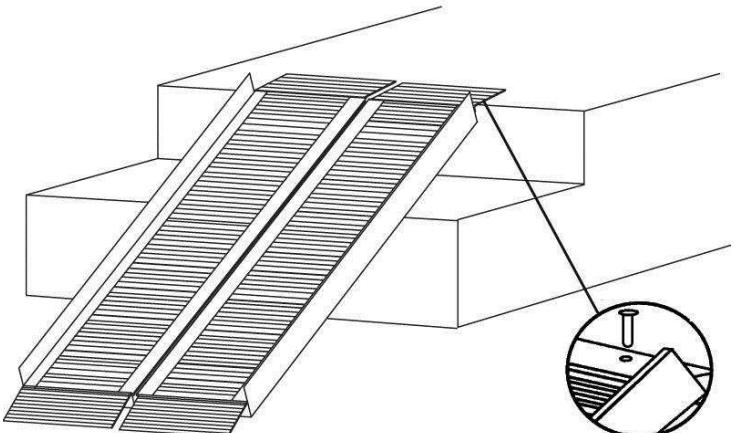

FIGURE 2
- ⚠ Ensure top lip transition plate is secure before using ramp. We recommend attaching ramp temporarily to the landing using provided clevis pins (drill 1/4" hole in landing) or semi-permanently using screws through pre-drilled holes at the top of each section. To prevent ramp from becoming dislodged during use, make sure that the top lip transition plate overlaps the resting surface as far as possible (FIGURE 2).